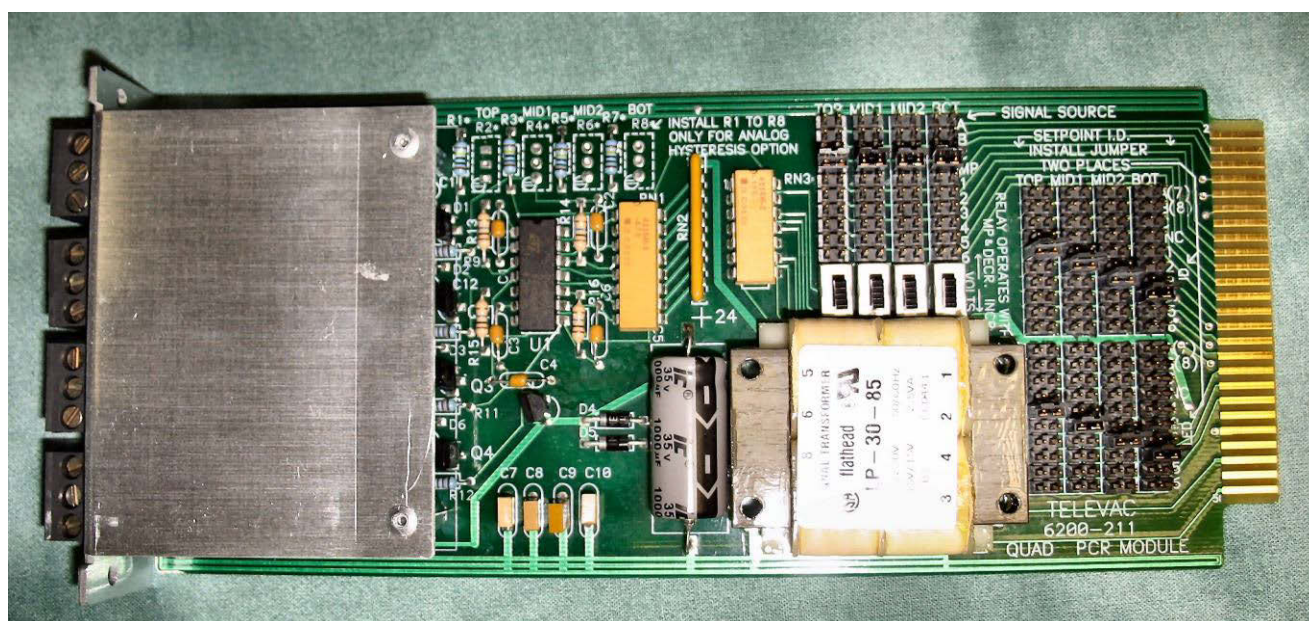
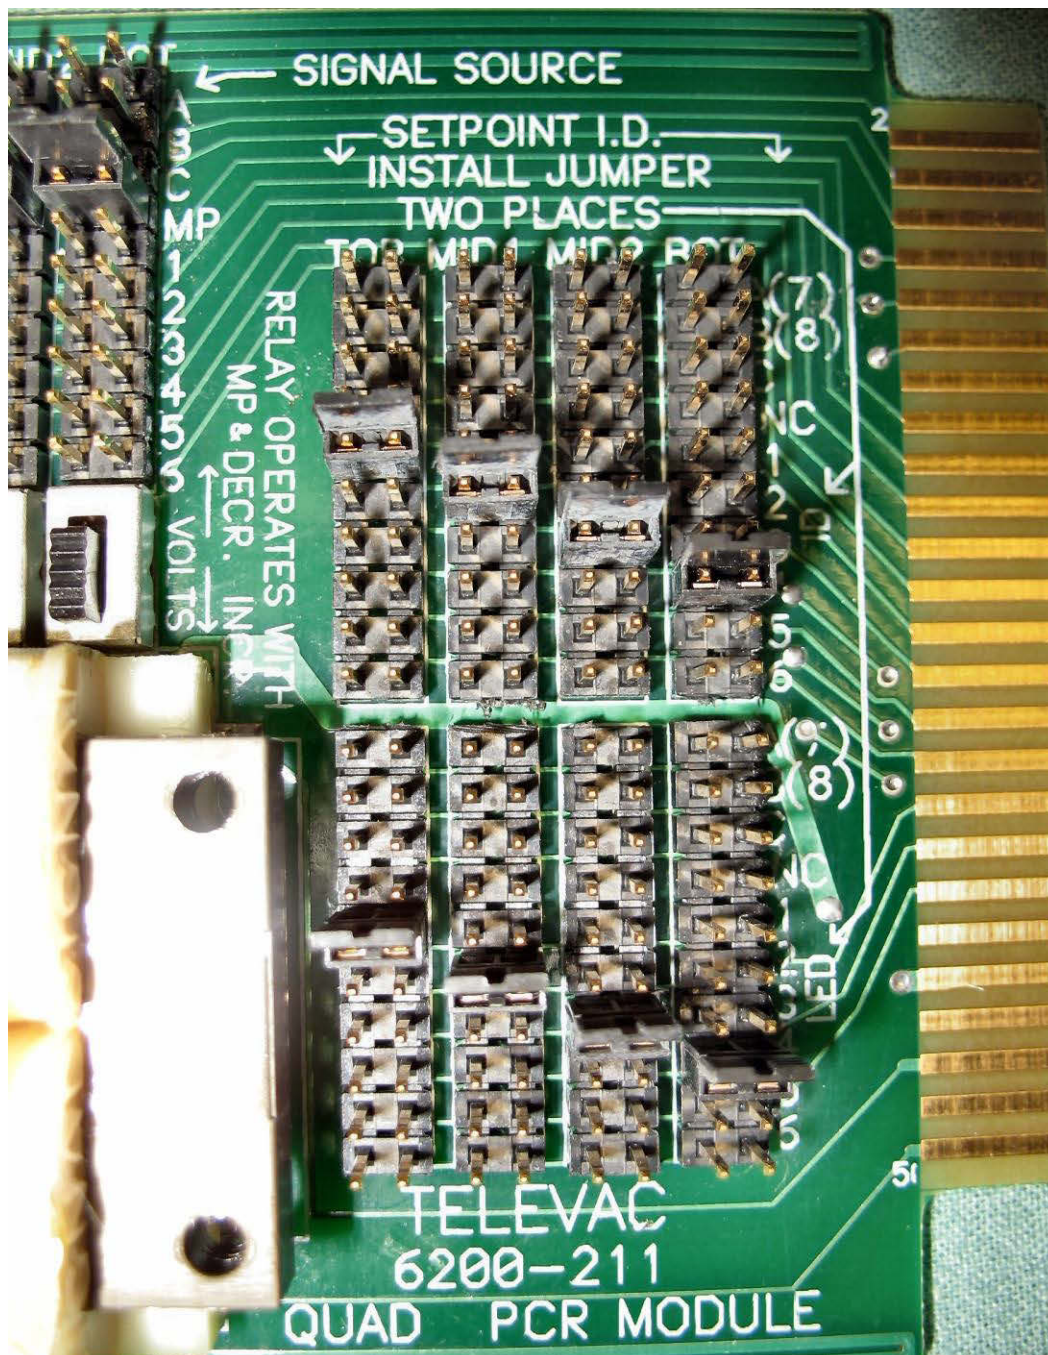

Fig. 9.1a - Setpoint Relay Module
Fig. 9.1b - Details of the Setpoint Relay Module
SETPOINT RELAY MODULE - A setpoint process control relay module is shown in Fig. 9.1a. The assignment of identification numbers for this module (usually done at the factory) is accomplished by placing jumpers on the appropriate pins in the SETPOINT ID section of the module. Note that two (2) sets of jumpers are required. The SIGNAL SOURCE section is used for the MM200 and jumpers should be installed in all four MP locations. Switches S1 through S4 should be set in the "MP" (or upper) position. See Fig. 9.1b for details.